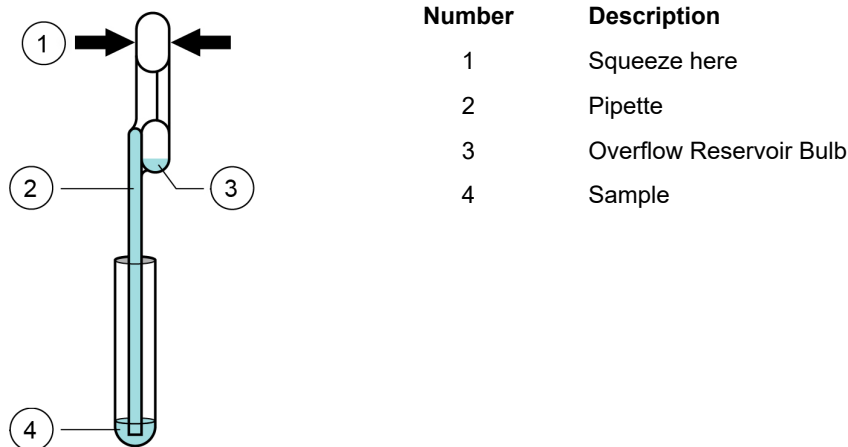

Figure 4. Transfer Pipette
6. Squeeze the top bulb of the transfer pipette **completely until the top bulb is fully flat**. While continuing to hold the bulb fully flat, place the pipette tip in the specimen transport tube (see Figure 4).
7. Release the top bulb of the pipette to fill the pipette before removing from the tube. After filling pipette, excess sample will be seen in the overflow reservoir bulb of the pipette (see Figure 4). Check that the pipette does not contain bubbles.